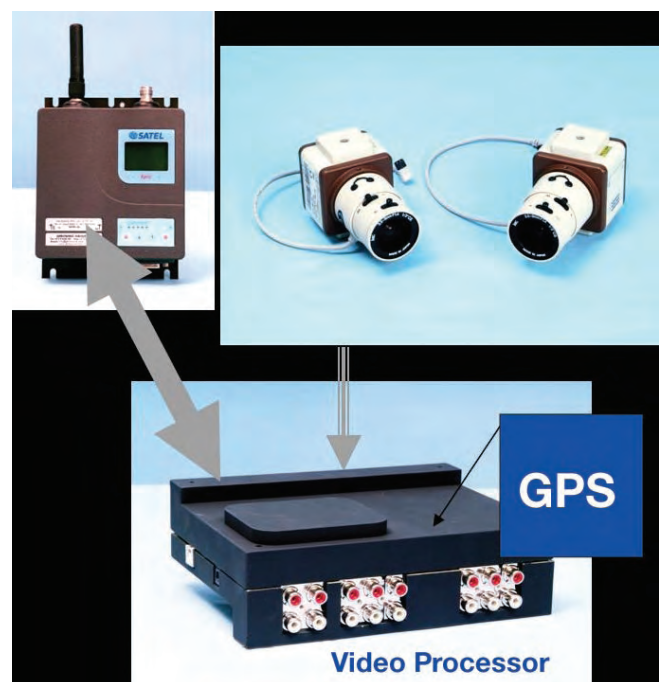

Figure 2
Figure 2 shows the system operation during flight. The aircraft is equipped with cameras connected to the cockpit video processor, a radio modem, and a GPS. The cockpit video processor performs image processing to analyze the state of the meters. The numerical results of the image processing and the GPS data are sent via the radio modem to the Ground Station (GS),